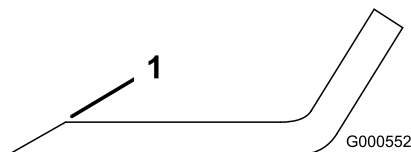
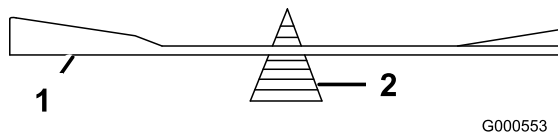

Figure 46
Figure 47
- Use a file to sharpen the cutting edge at both ends of the blade (Figure 46). Maintain the original angle. The blade retains its balance if the same amount of material is removed from both cutting edges.
- Check the balance of the blade by putting it on a blade balancer (Figure 47). If the blade stays in a horizontal position, the blade is balanced and can be used. If the blade is not balanced, file some metal off the end of the sail area only (Figure 46). Repeat this procedure until the blade is balanced.